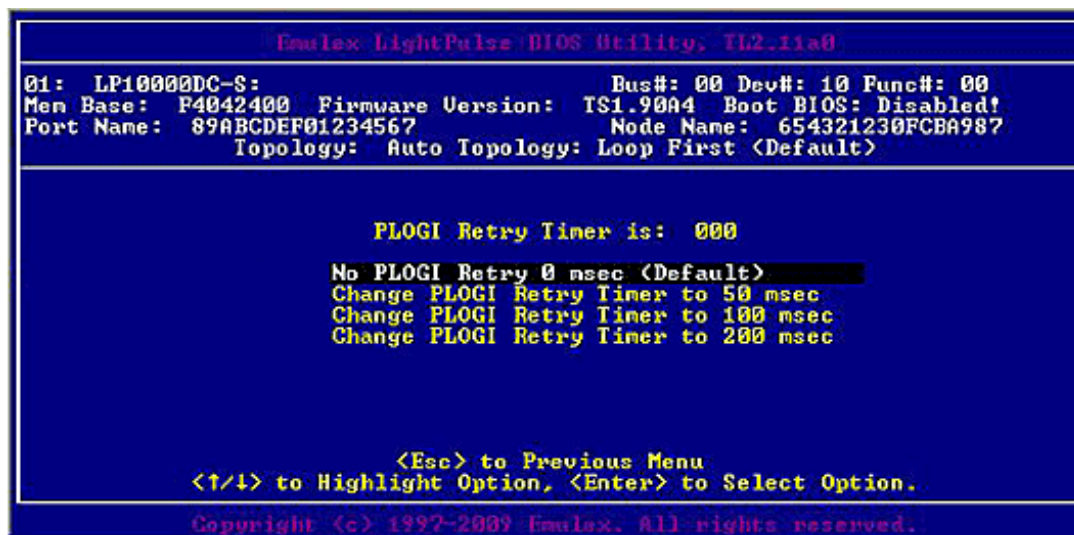

Figure 4-11 Change the PLOGI Retry Timer Screen
2. Select **Change PLOGI Retry Timer**. Information similar to Figure 4-11 is displayed.